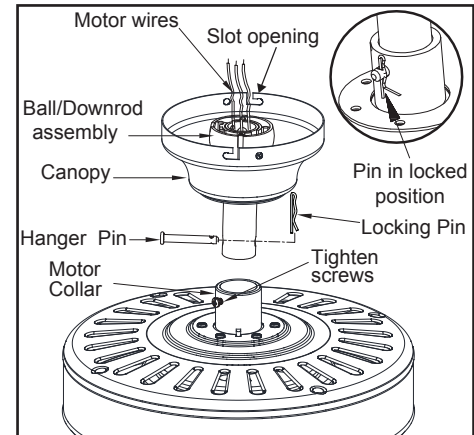

Figure 6
3. Make sure the slot openings are on top. Route the wires through the canopy and then through the ball/downrod assembly. (Figure 6)
5. Align the holes at the bottom of the downrod with the holes in the collar on top of the motor housing. (Figure 6)
Carefully insert the hanger pin through the holes in the collar and downrod. Be careful not to jam the hanger pin against the wiring inside the downrod. Insert the locking pin through the hole near the end of the bolt until it snaps into its locked position, as noted in the circle inset of Figure 6.